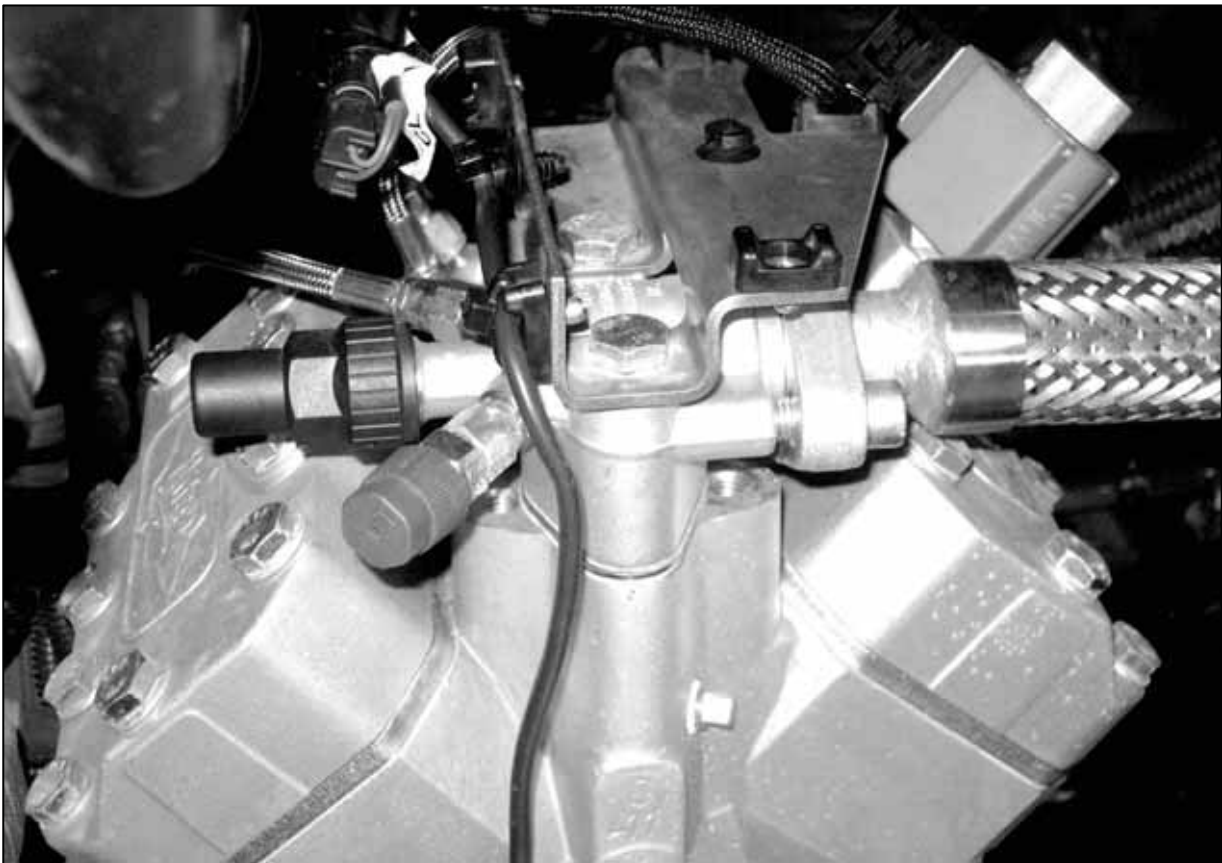

Figure 17 Rear view
- 2.11.2. Secure the cable on the cable tie mounts. **Until 069099 is available as a service part, route to avoid sharp edges.** (Fig. 17, 18).